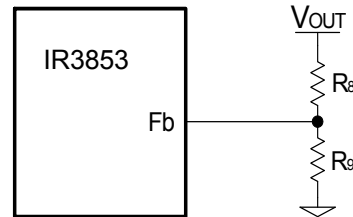

Fig. 12. Typical application of the IR3853 for programming the output voltage
When an external resistor divider is connected to the output as shown in figure 12. Equation (6) can be rewritten as: